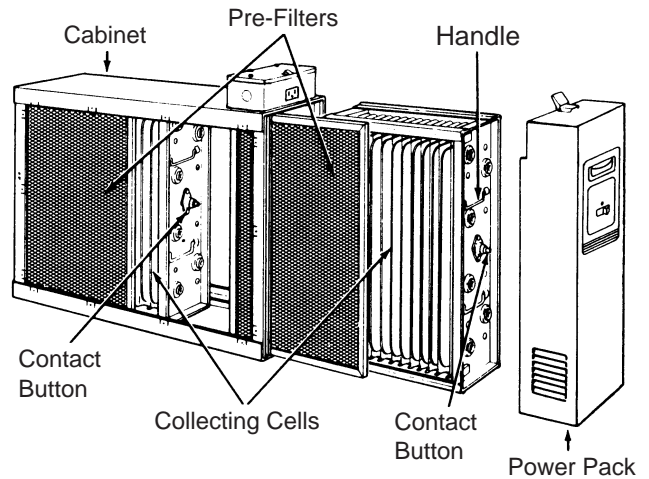

Figure 20
11. **With the cabinet Installed**, reinstall pre-filter(s) and collecting cell(s) (Figure 20).